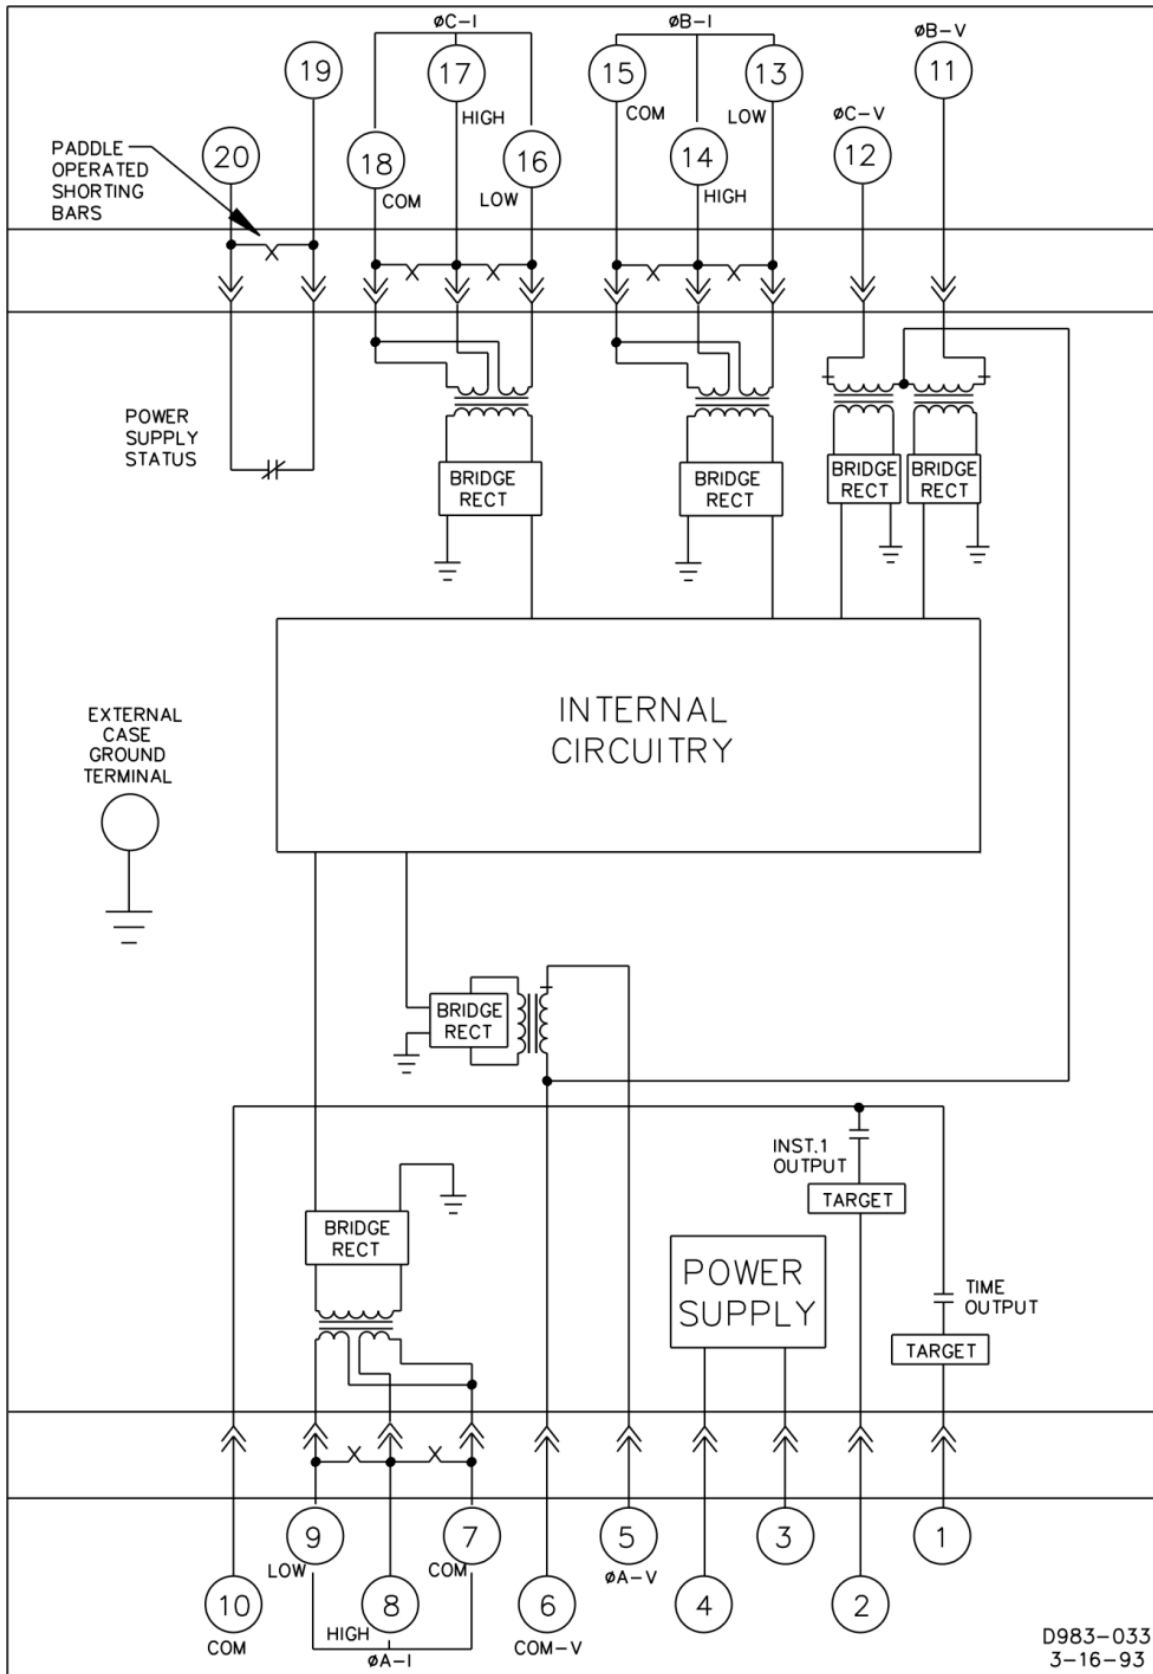

Figure 4-23. Typical Internal Diagram, Sensing Input Type P
- Figure 4-23: Typical Internal Diagram, Sensing Input Type P